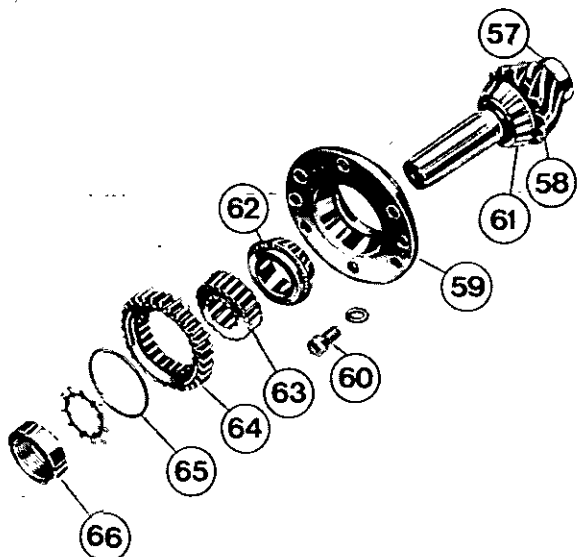

FIG. 34
2. Fig. 34. Release the snap ring (65), securing the ground speed gear (64) to the splined hub, then slide off the gear.
3. Remove the six bolts (60) and spring washers securing the pinion housing (59).
2. Fig. 34. Hold the pinion in a soft faced vice, release the tab washer, then unscrew the locking ring (60) using the 3150 'C' spanner. Remove the splined hub and pull off the housing (59) complete with the front bearing cone (62).